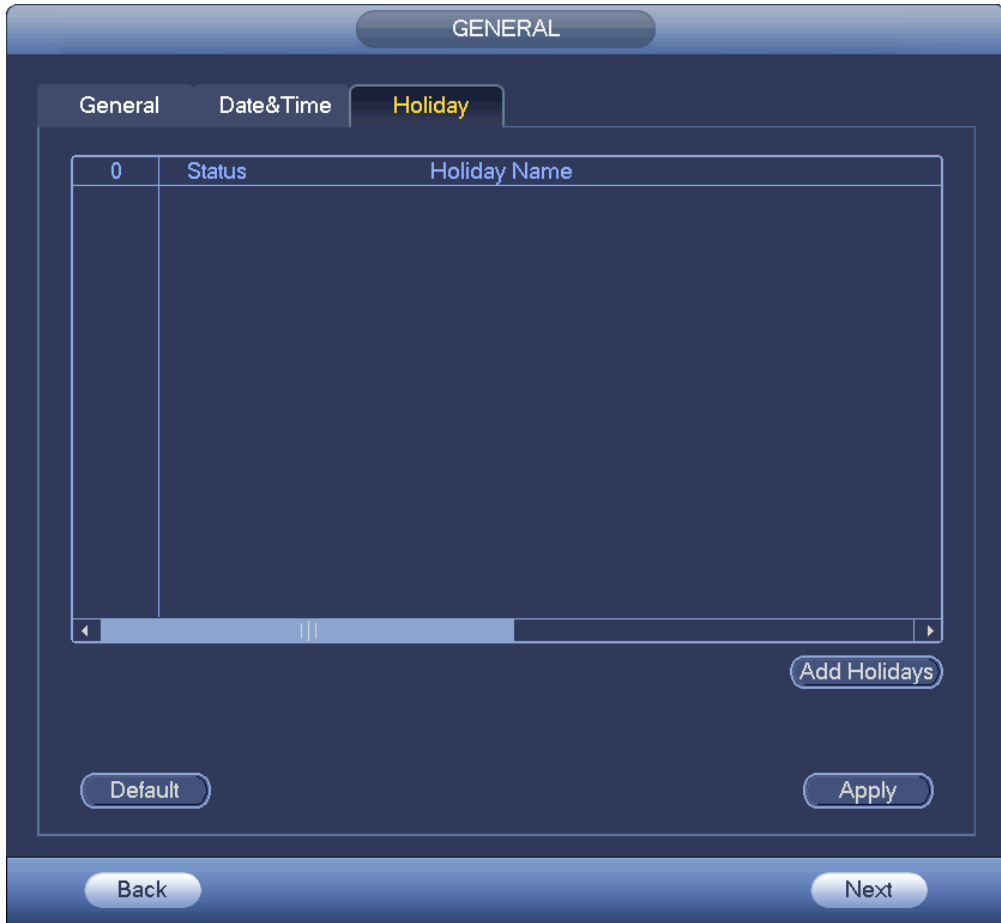

Figure 3-14
Step 1 Click Holiday button. See Figure 3-14.